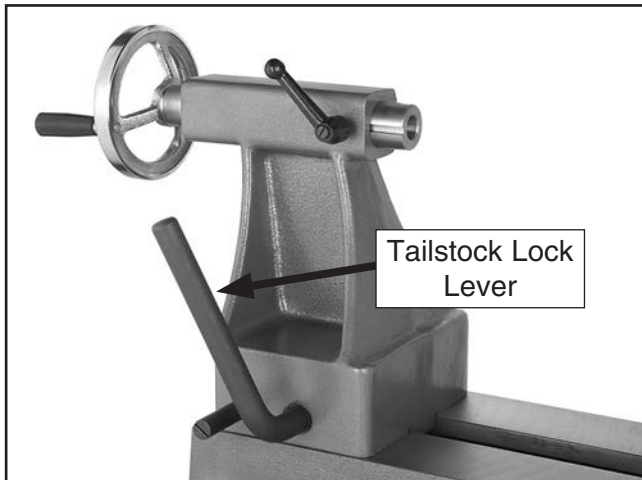

Figure 22. Tailstock lock lever location.
1. Loosen the tailstock lock lever and move the tailstock to the desired position along the bed, as shown in **Figure 22**.